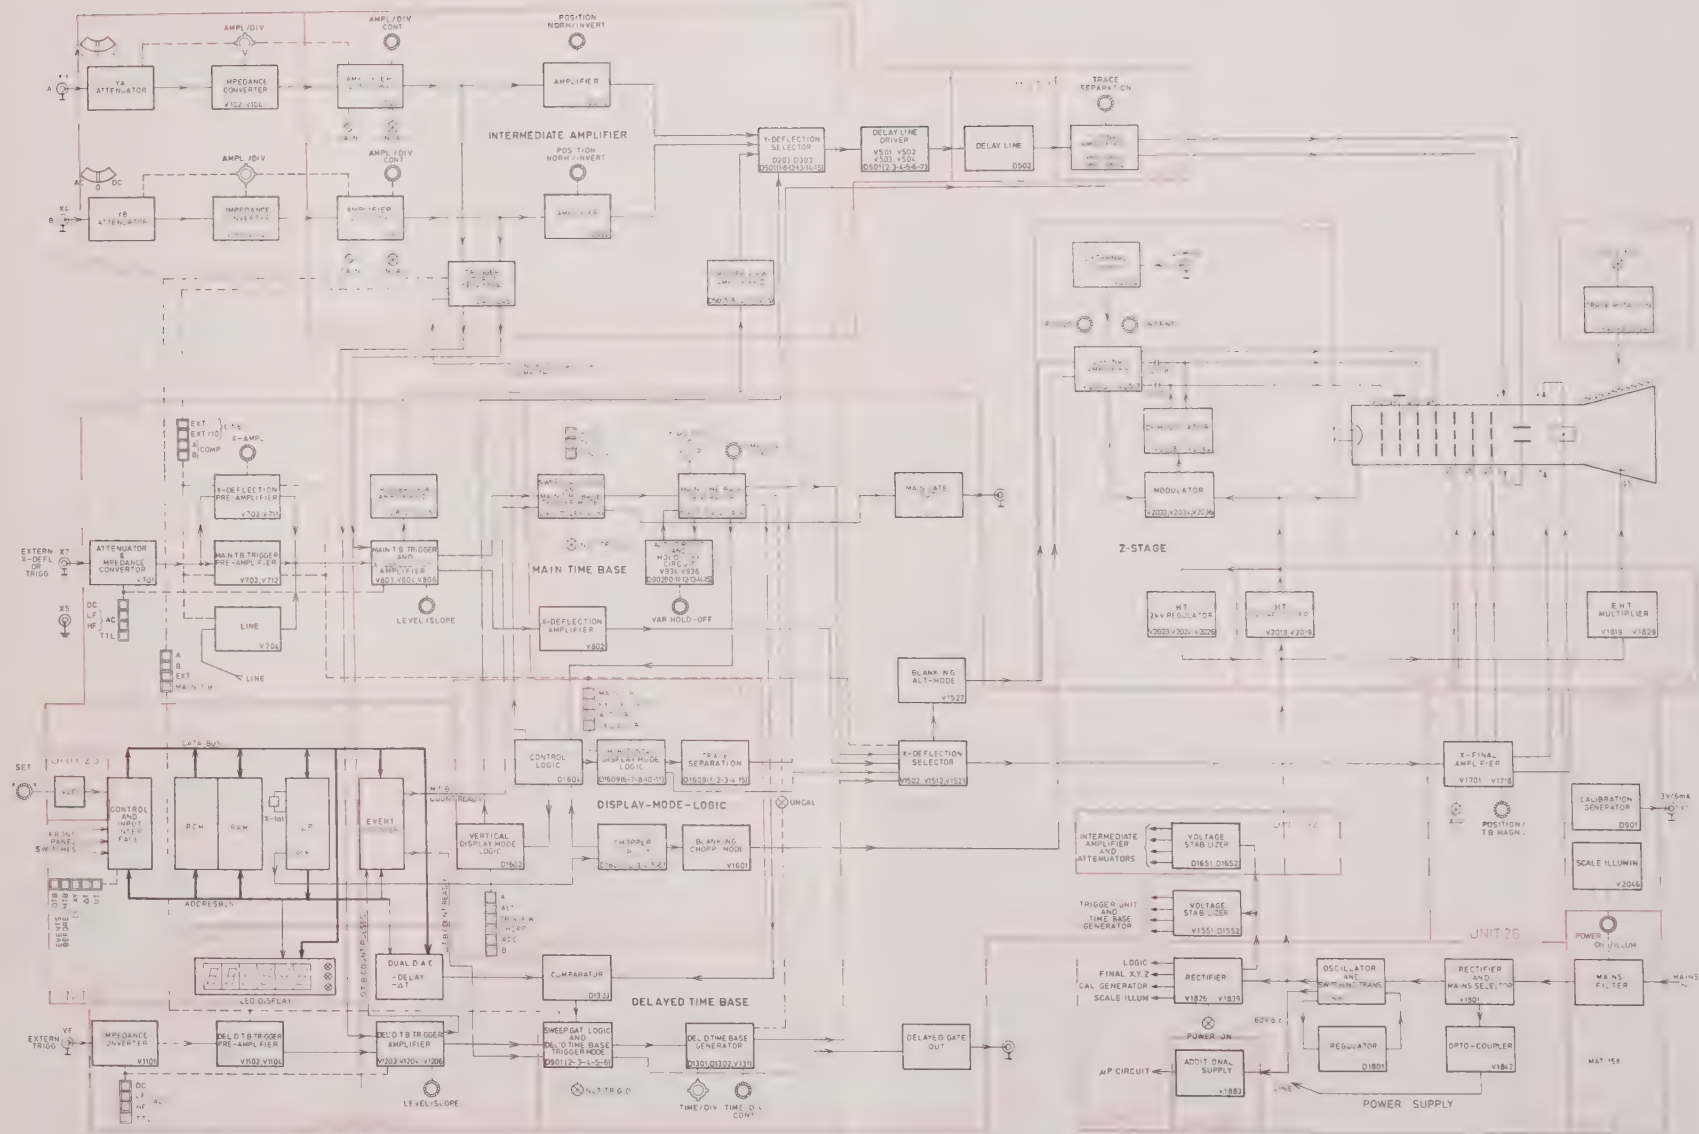

Fig. 6.1. Blockdiagram
6.1. DESCRIPTION OF THE BLOCK DIAGRAM (Refer to Fig. 6.1.)